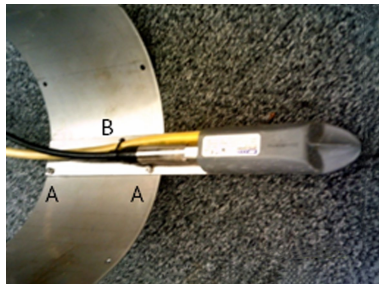

Figure 3: Top View of Sensor
3. Feed the small cable ties through the small holes in the fixing ring to tie the transducer cables to the trailing edge of the fixing ring, as shown in Figure 3: